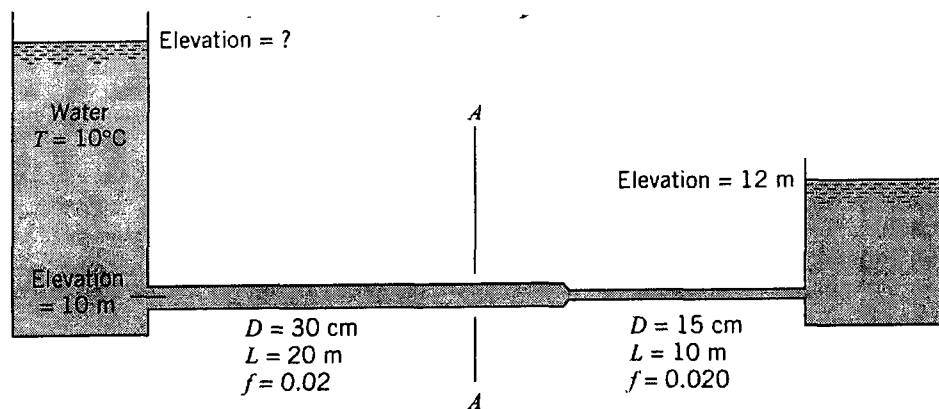

Figure 1 / Rajah 1
- (b) Determine the elevation of the water surface in the upstream reservoir if the discharge in the system is $0.15 \text{ m}^3/\text{s}$ as shown in Figure 1. The value for coefficient of contraction (K_c) is 0.37 (contraction between pipe D_{30} and D_{15})